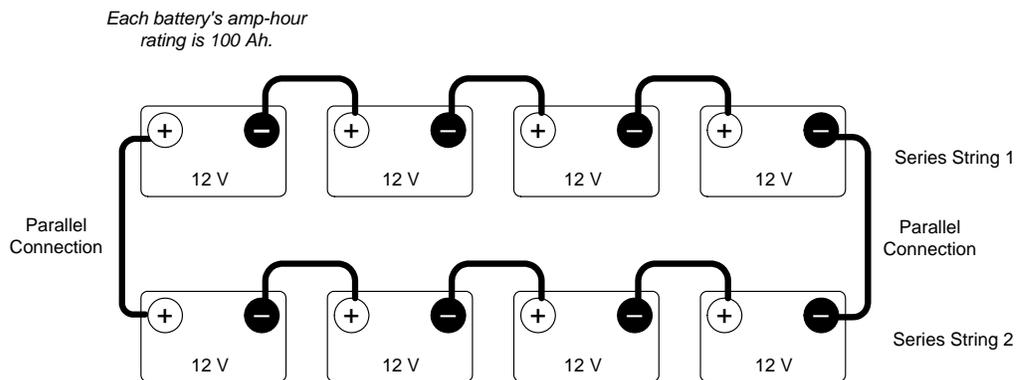

**Figure 4 Step 1 - Wiring Batteries in “Series”**
1. First wire the batteries in “series” (voltage adds) with the positive terminal of one battery connected to the negative terminal of the next battery to meet the inverter’s DC input requirements (48 volts shown in Figure 4 and Figure 5.)